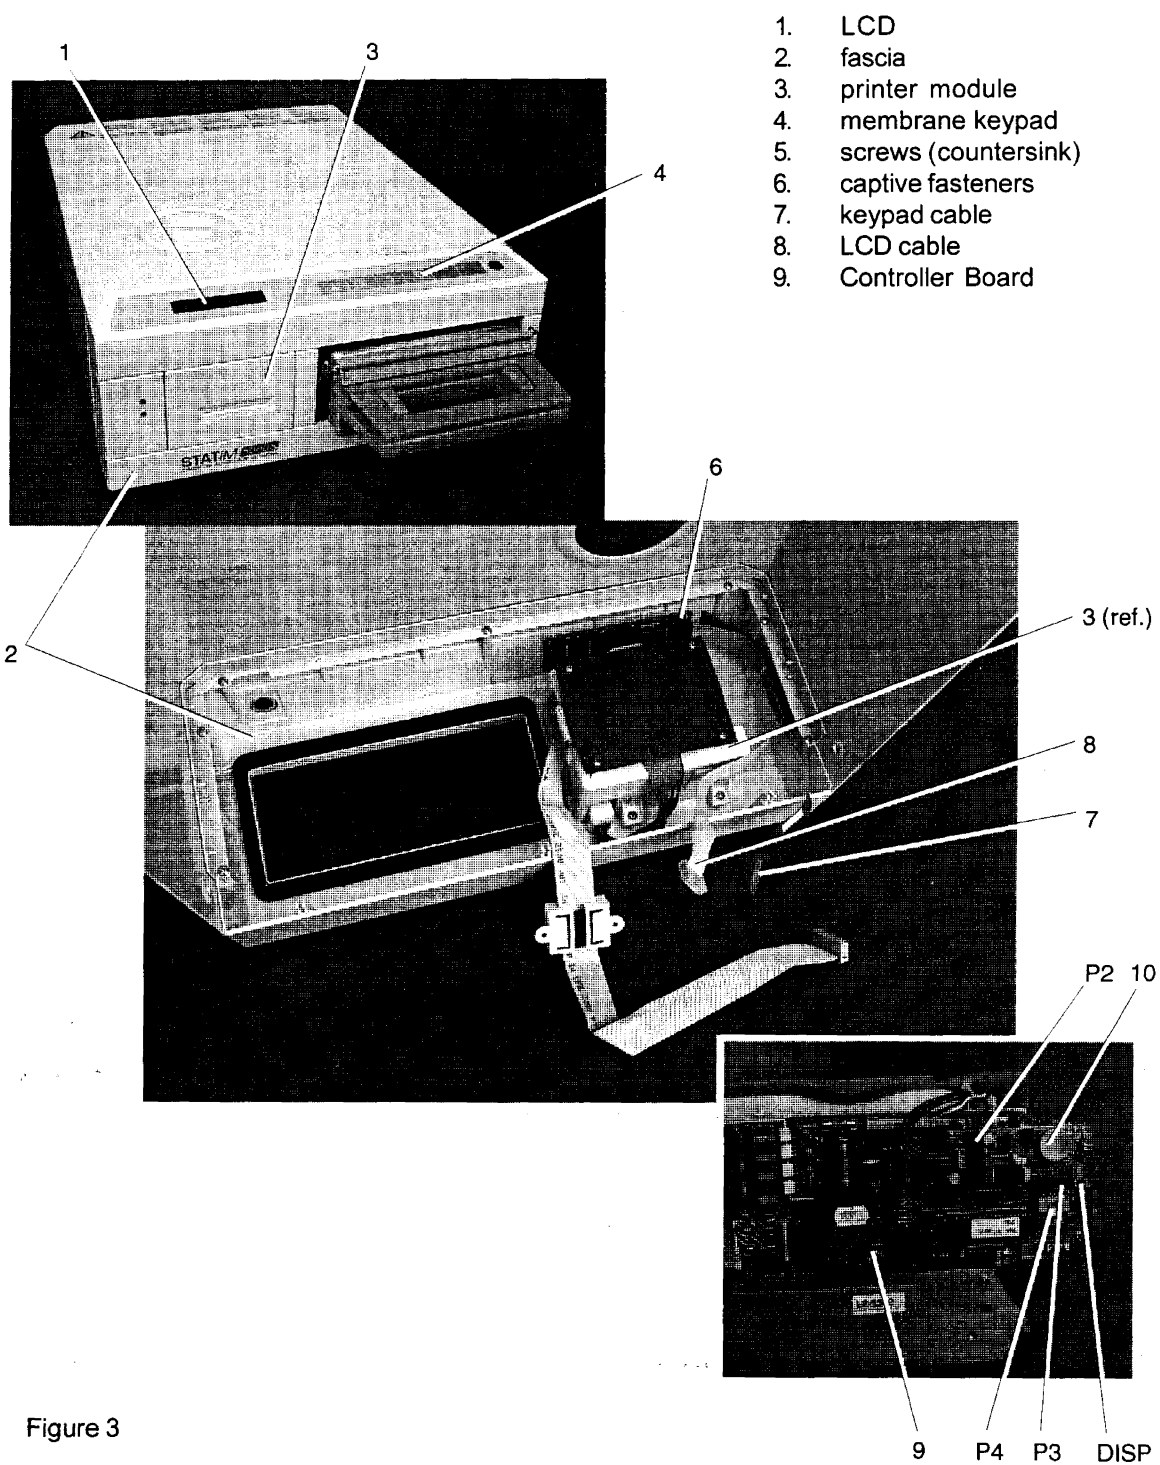

Figure 3
To replace the LCD (1), follow these steps (see Figure 3):
1. Align the captive fasteners (6) on the LCD with the four clearance holes in the fascia (2) and reinstall the LCD using the four countersink screws (5) retained from disassembly. The LCD cable (8) and keypad cable (7) are on the same side of the cover.